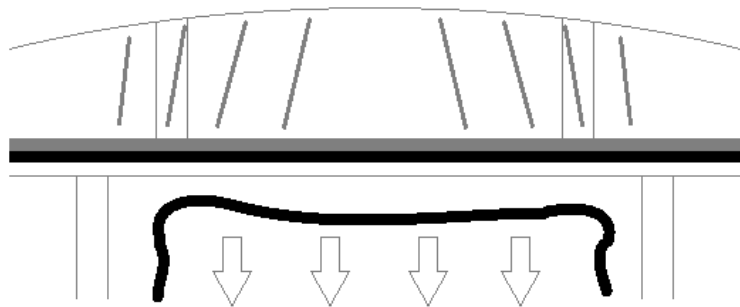

Fig120
- **STEP 1:** At one end of the polytunnel, trap the polythene tight up to the rebate with a pre-nailed batten in the centre of the lintel for approximately 12 inch either side of centre – The polythene should be smooth along this 2ft length with no creases (**Fig120**).